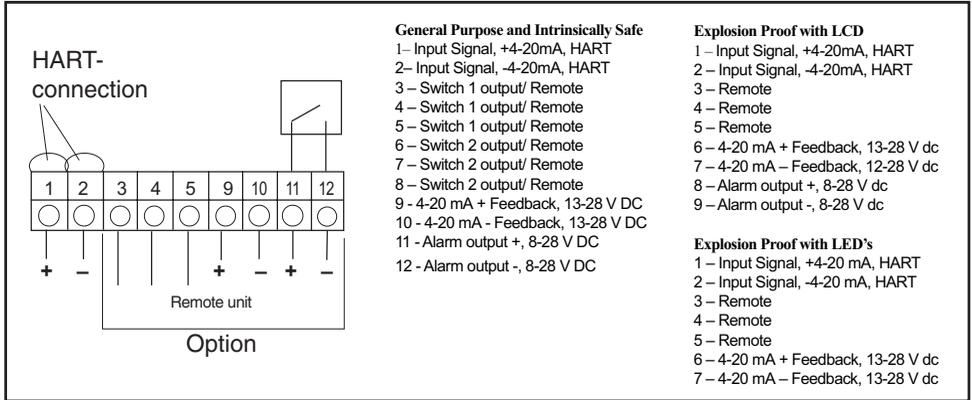

Figure 7. Connections
5. Connect the outlet connector (Figure 7) of the positioner with tubing, independent of the action (direct or reverse).
NOTE: *The input loop current signal to the **PMVD20** should be in shielded cable. Shields must be tied to a ground at only one end of the cable to provide a place for environmental electrical noise to be removed from the cable. In general, shield wire should be connected at the source. (Figure 7).*